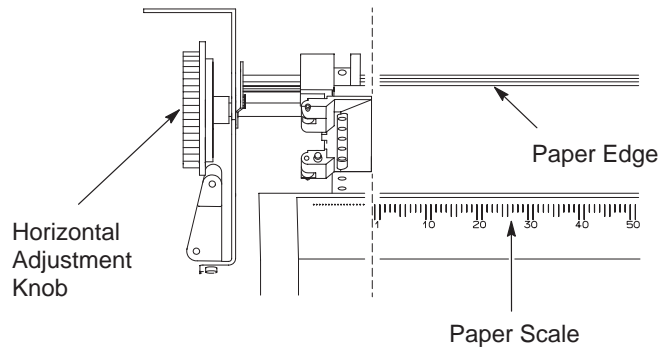

Figure 2–41. Aligning the Paper
8. Align the paper according to the paper scale on the shuttle cover by turning the horizontal adjustment knob. Turn the horizontal adjustment knob until the edge of the left tractor door is aligned with the number “1” on the paper scale. See Figure 2–41. You can also use this scale to count columns.